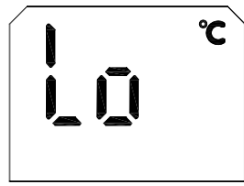

Fig.5
- When the measured value is lower than 34.1 °C, LO is displayed (Figure 5), and send the prompt sound of "Body temperature is too low, invalid measurement";